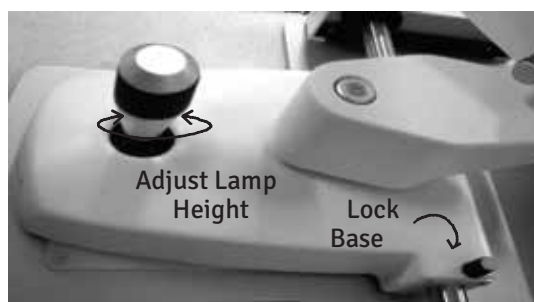

Figure IN-4 Adjust Height
7. Microscope elevation is adjusted by rotating the joystick and observing the slit image through the Microscope Assembly until slit is centered on the patient's cornea. Refer to figure IN-4.
10. The horizontal motion of the base can be locked by tightening the Base Locking Screw. Refer to figure IN-4.